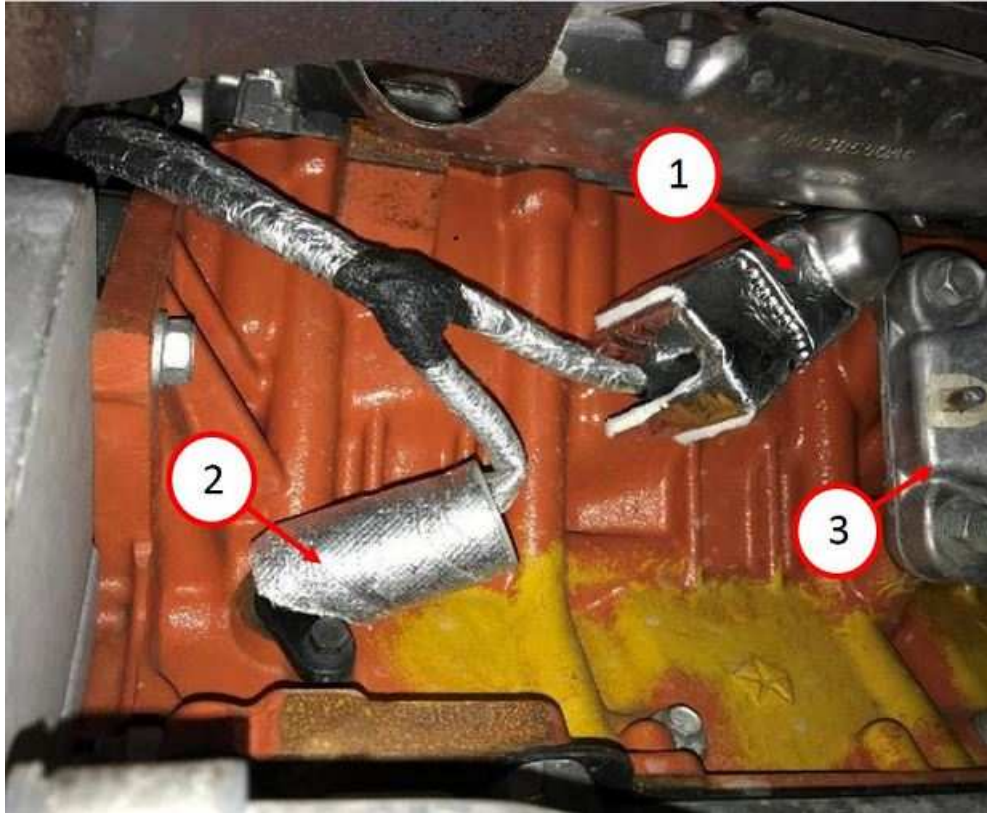

Fig. 1
2. With vehicle on a hoist, remove the heat shield and inspect knock sensor heat shield (Fig. 1) .
3. Was the knock sensor heat shield (Fig. 1) loose, missing or is there any damage to the harness connector back cover?
1. Remove knock sensor connector and crankshaft position sensor connectors, move branch rearward over the exhaust catalyst to ease removal of backshell. See (Fig. 1) for locations.